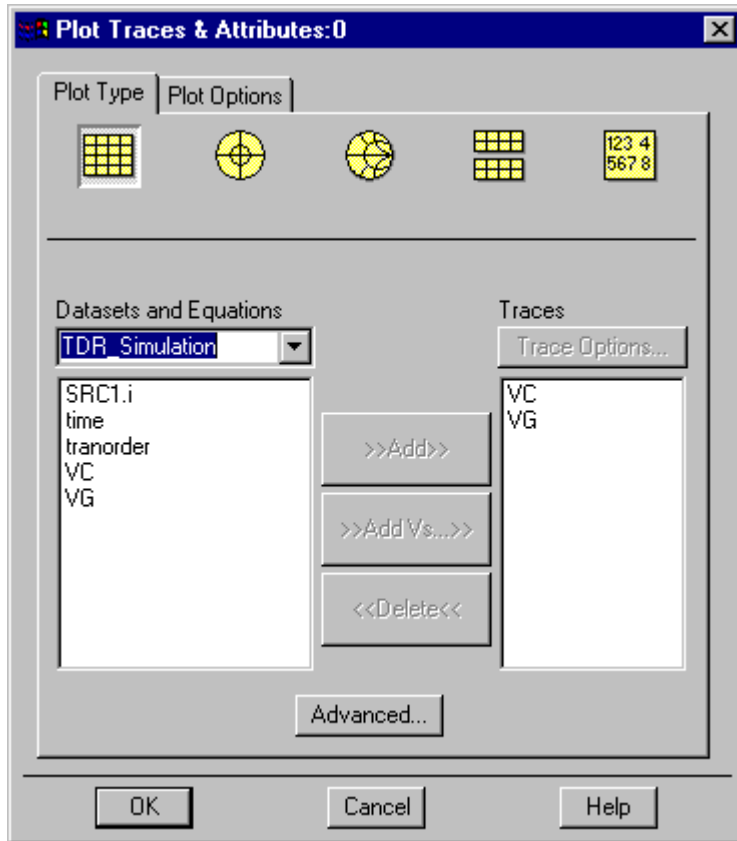

Figure 6: Plots traces and attributes window
6. Add a rectangular plot by clicking on . Place the rectangular plot on your data display as you would a component. When you do this, a plot traces and attributes window will open. Select VC and click on “>>Add>>”. Then select VG and click on “>>Add>>”. We have added two traces: VC versus time and VG versus time. When a transient simulation is done, the assumed x-axis is time. If we had wanted to explicitly set the x and y axes we would choose “>>Add Vs...>>”. Your plot attributes window should look like Figure 6 below. Click “OK”.